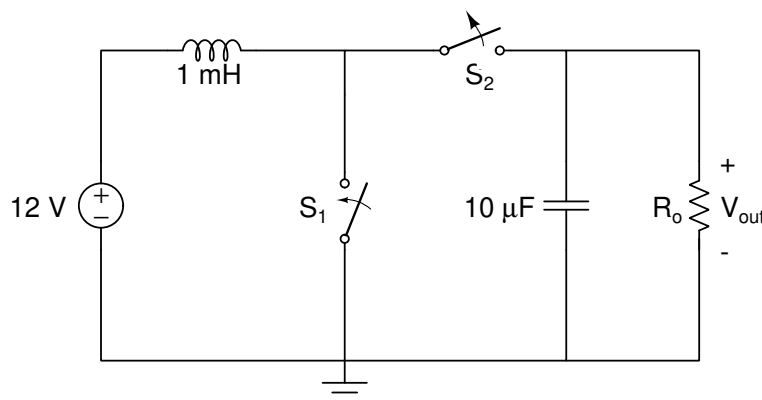

Figure 1: A boost converter circuit containing two synchronized switches.
Introduction: In this lab, you will design, simulate, build, and test a boost converter based on the switched capacitor circuit shown in **Figure 1**.
Figure 2: Boost converter circuit implemented with an NMOS transistor driven with a function generator (FG) to represent the switch S_1 and a junction diode to represent the switch S_2 in Figure 1.